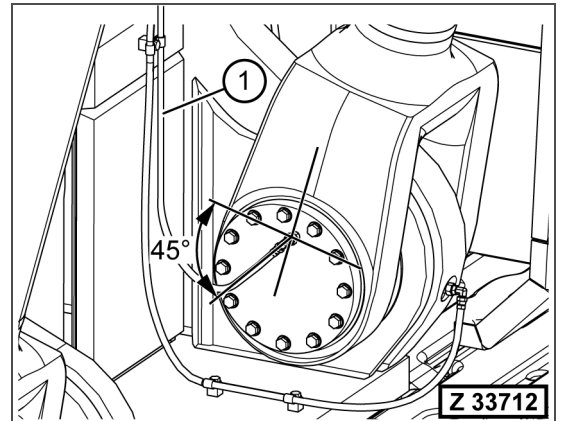

Fig. 5-31
11. Connect the grease hose (Fig. 5-31, Pos. 1) of the central lubrication system to the grease port at the boom cylinder inner L.H. and R.H side.